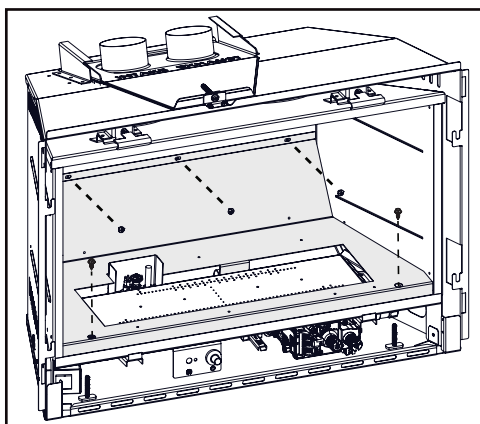

Fig. 1
- ☐ 3. Uninstall 5 screws that hold the media tray in place and lift the cover up and out (**Fig. 1**)